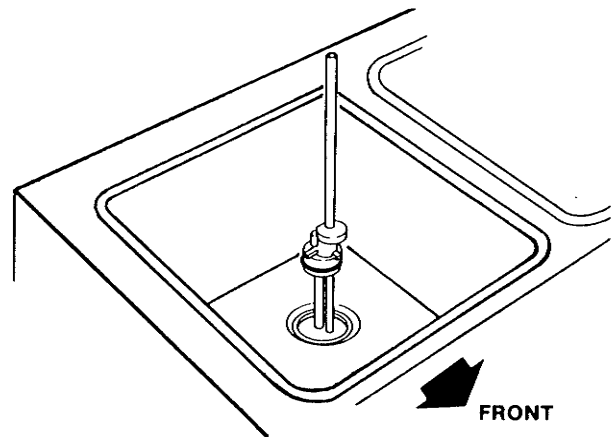

Figure 29. Installing Mix Inlet Regulators
K. Install the mix inlet regulators into the hopper with the air inlet (long) tube toward the front of the freezer (Fig. 29).